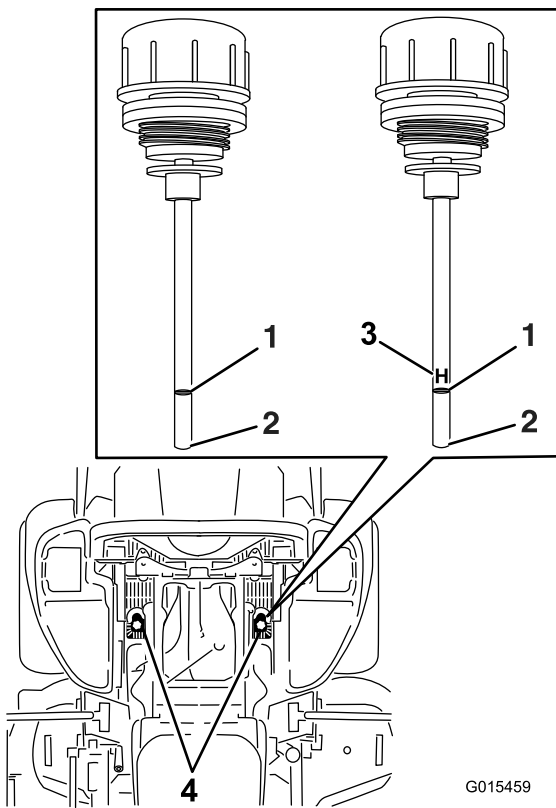

Figure 81
6. Clean the area around the dipsticks of the hydraulic system reservoirs (Figure 81).
7. Remove 1 dipstick from the hydraulic reservoir (Figure 81).
9. Remove the dipstick and look at the end (Figure 81).